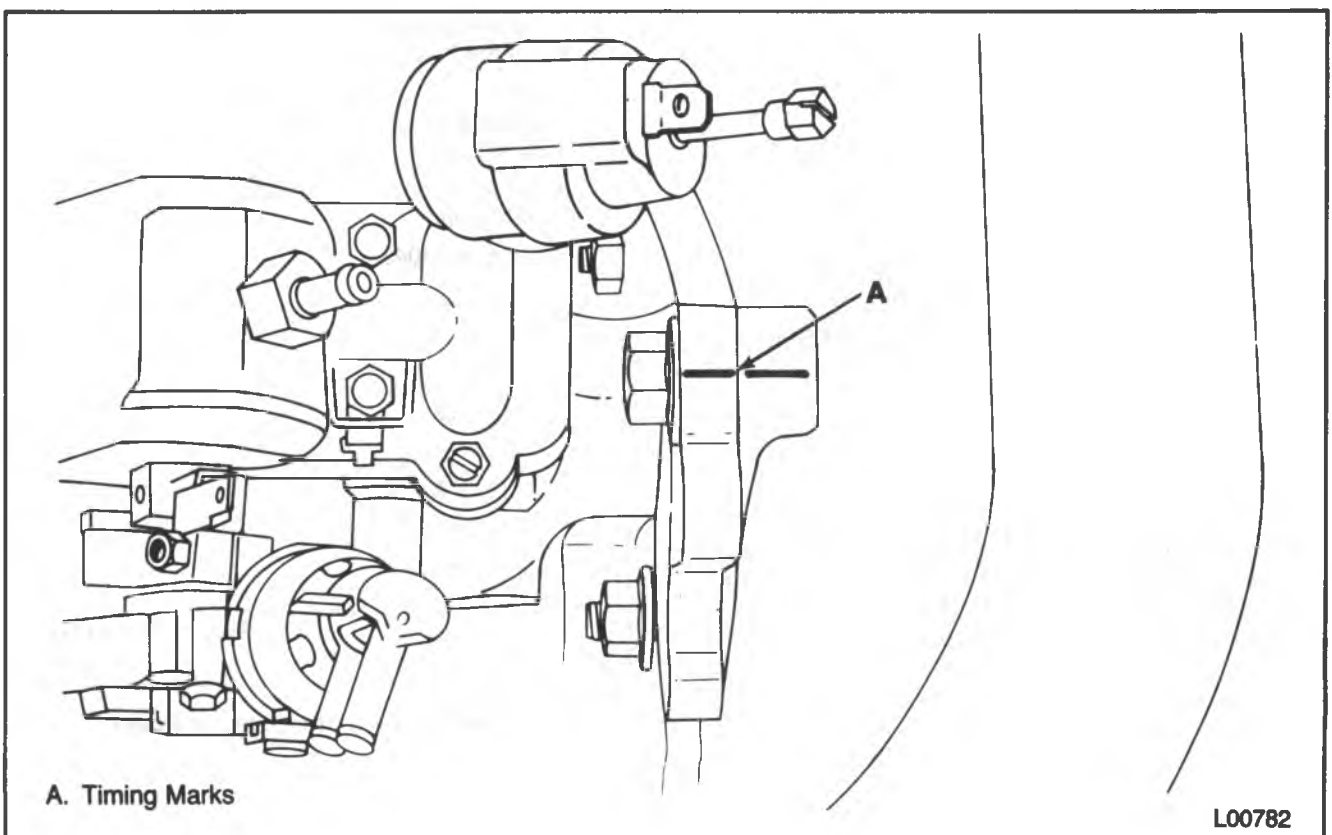

Figure 10 — Timing Alignment Marks
- Align the timing marks (figure 10).
3. Nuts (11).
For the engine to be properly timed, the marks on the top of the engine front cover must be aligned with the marks on the injection pump flange (figure 10). The engine must be off when the timing is reset. Align the scribe marks or half circles.